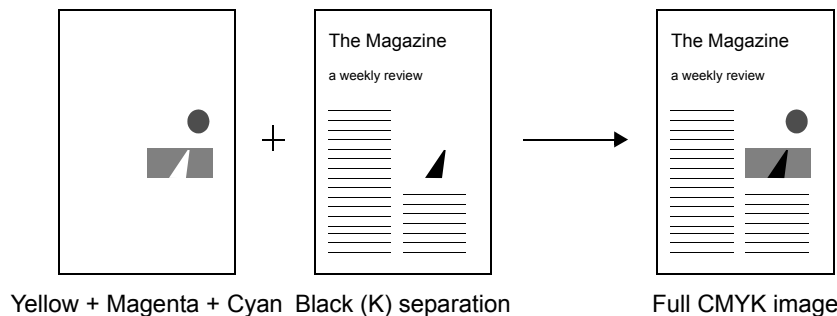

Figure 13.13 Yellow, Magenta, Cyan, and Black separations
Finally, the black ink for the black (K) separation is printed. All of the separations have been combined, producing a full-color image as simulated in Figure 13.13.